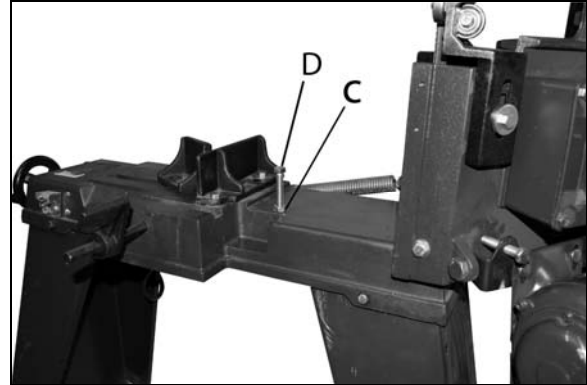

Figure 1
The downward travel limit is set by adjusting the stop screw (D) (see fig. 1). It should be set to just trip the toggle switch at its lowest position. To adjust, loosen lock nut (C), and turn the stop screw (D) in or out until the correct height is established; then tighten lock-nut (C).